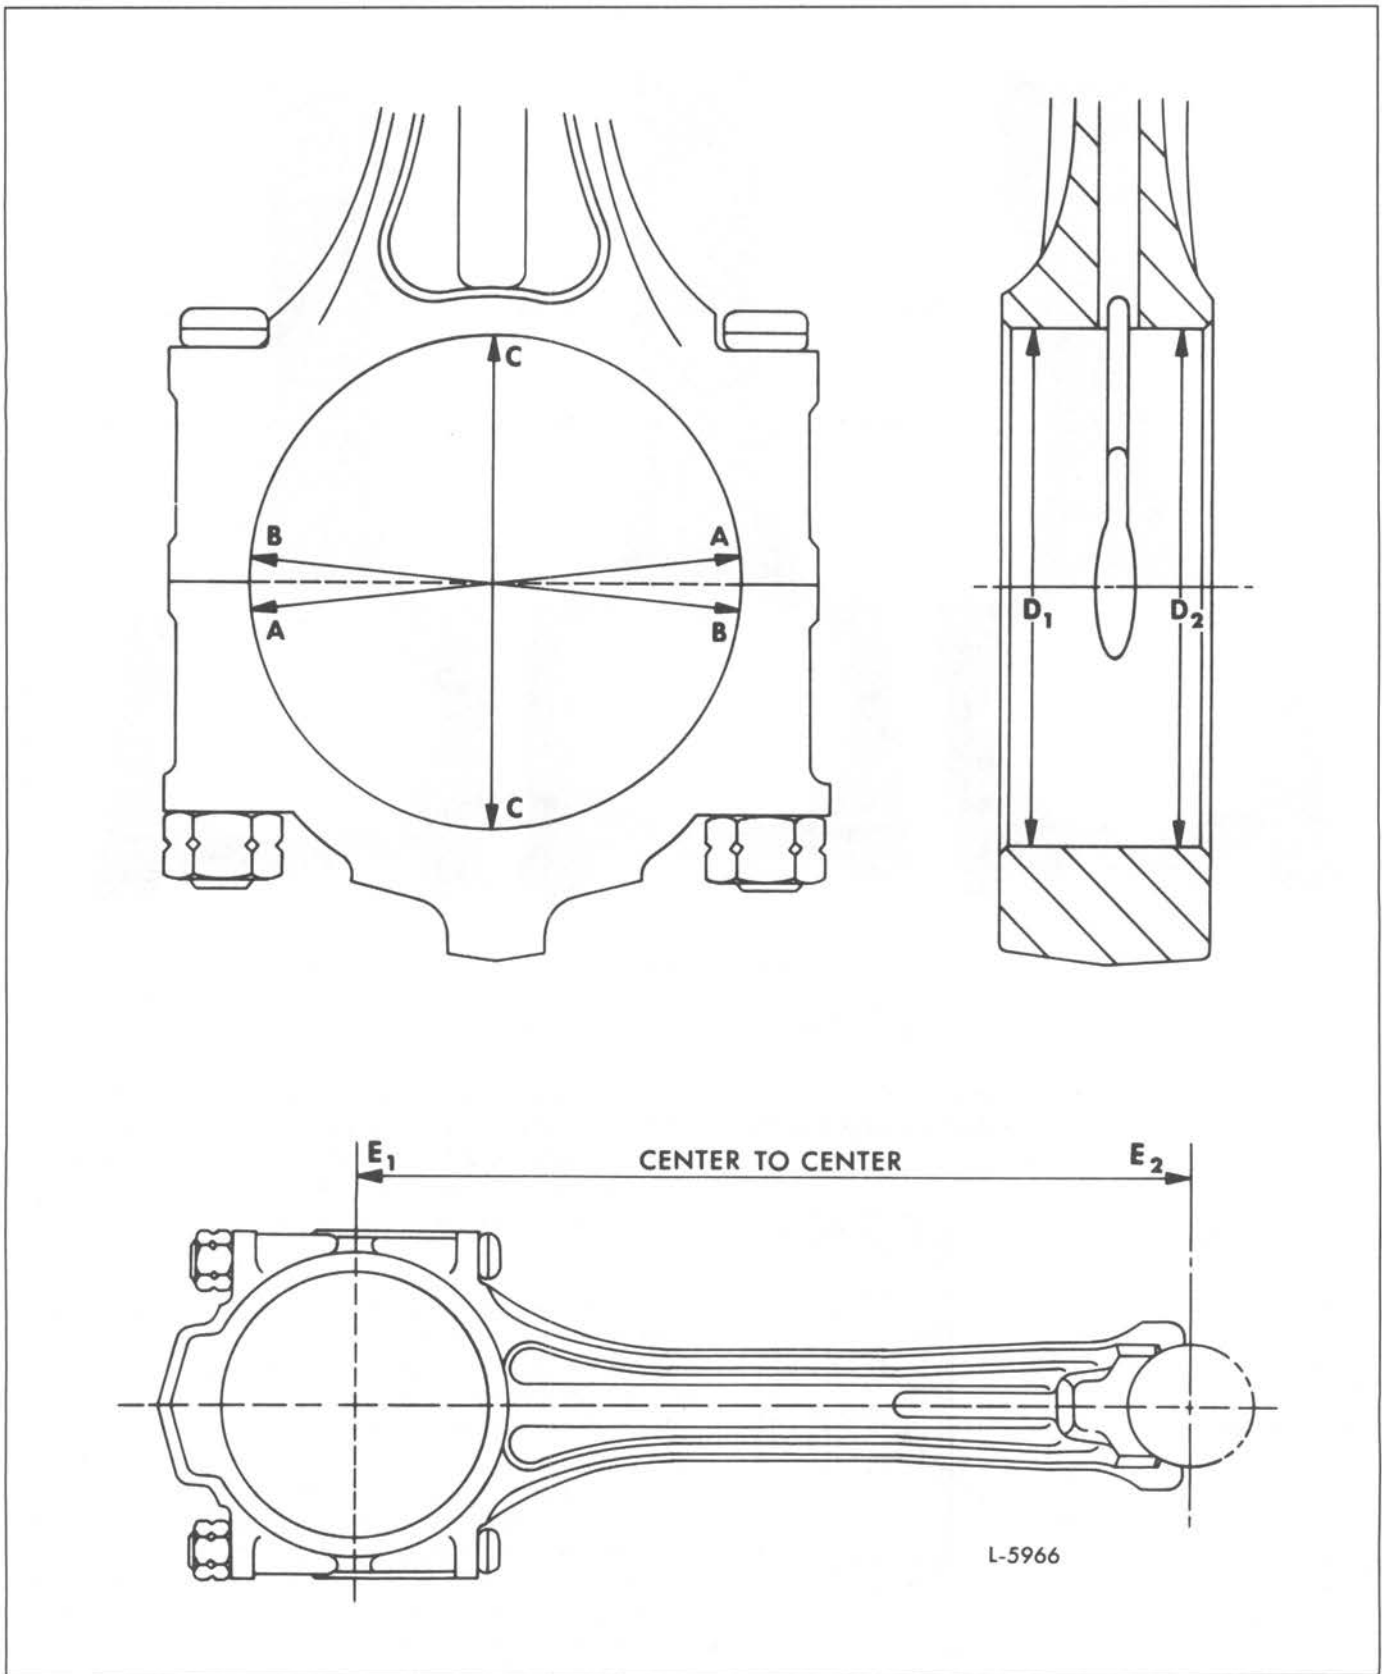

Fig. 5 - Dimensional Inspection of Cross-Head Piston Connecting Rods
2. Determine the average bore diameter of the rod, using a dial bore gage and master ring as follows (Fig. 5).
- b. Measure diameter A and B as shown in Fig. 5.
3. Determine taper as follows (Fig. 5):
4. Determine length by finding the distance between E1 and E2 (Fig. 5).